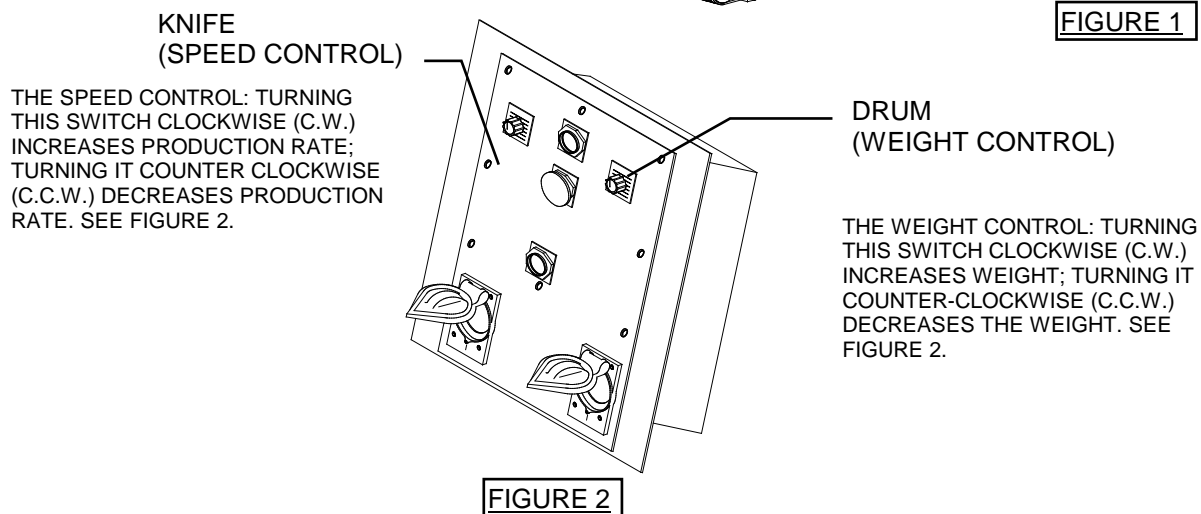

FIGURE 2
- A. SET WEIGHT AND SPEED CONTROLS TO 50% (SEE FIGURE 2).